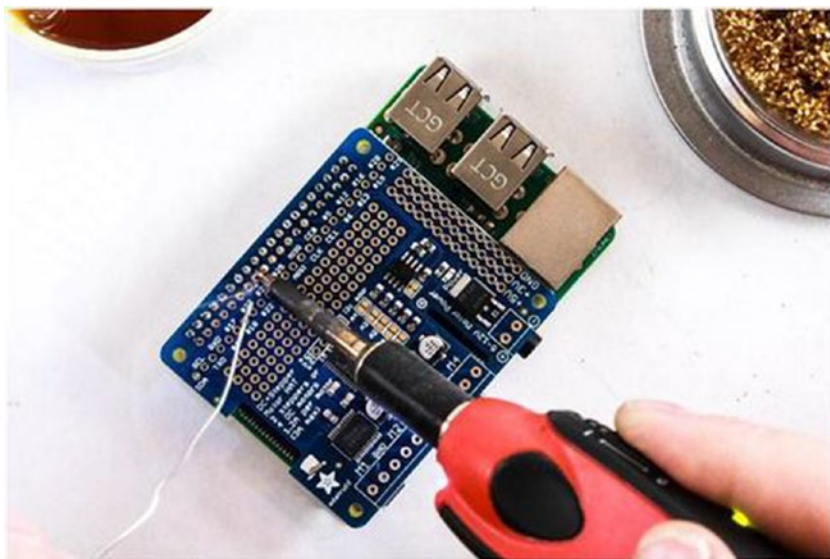

Figure 6-10. Rotate the Pi and solder the remaining pins
6. Rotate the board 180 degrees and solder the second row (see Figure 6-10).